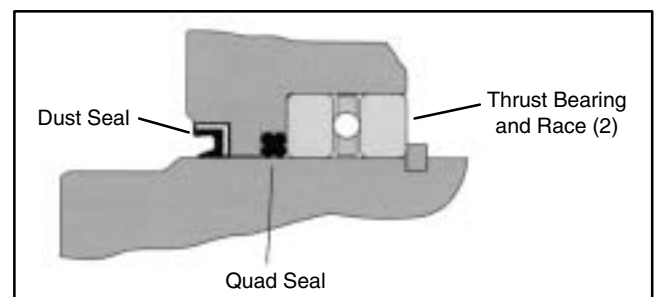

Figure 22
8. Put the thrust bearing and bearing races into the housing. The thrust bearing goes between the two bearing races (Fig. 22).